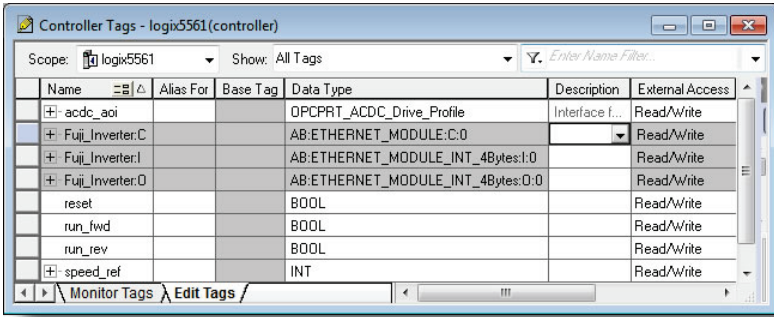

Figure 63: Create AC/DC Drive Profile AOI Tags
- 4) Create the tags in Figure 63.